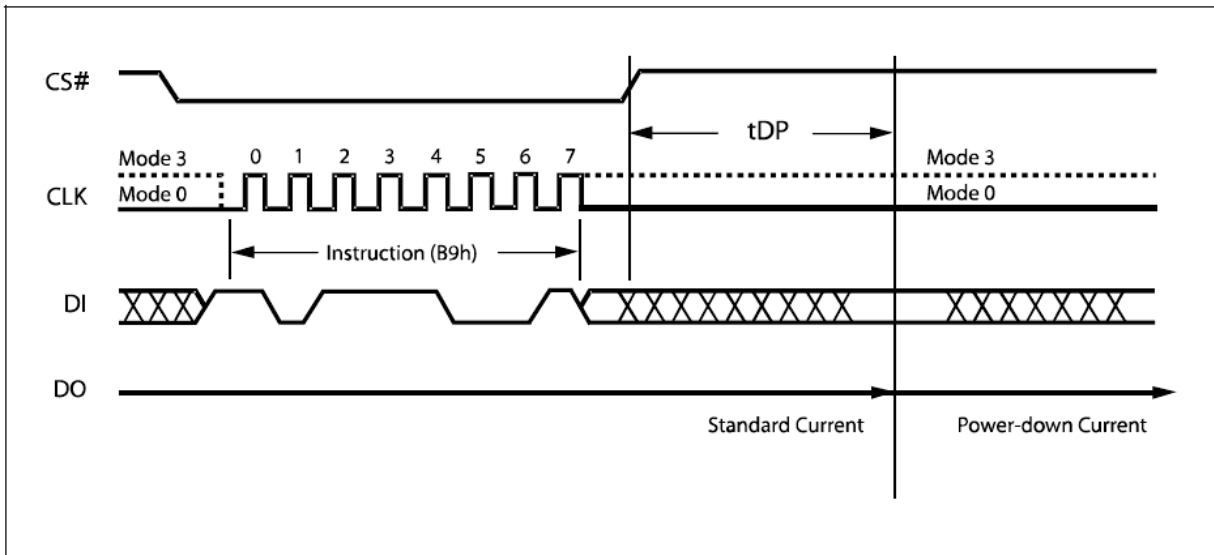

Figure 44. Deep Power-down Instruction Sequence Diagram
The instruction sequence is shown in Figure 44. Chip Select (CS#) must be driven High after the eighth bit of the instruction code has been latched in, otherwise the Deep Power-down (DP) instruction is not executed. As soon as Chip Select (CS#) is driven High, it requires a delay of t_{DP} before the supply current is reduced to I_{CC2} and the Deep Power-down mode is entered.